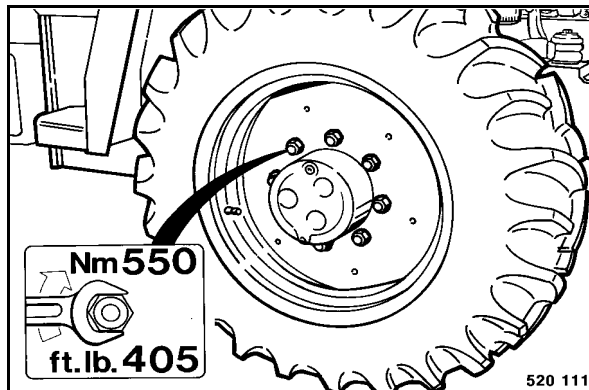

Fig. 192
- Attach the wheel (Fig. 192) and tighten the wheel nuts crosswise with 550 Nm (405 ft. lb.).